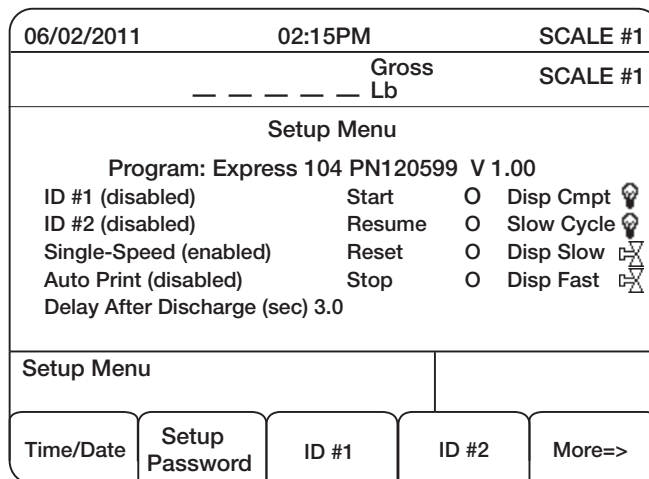

Figure 3-2. Setup Menu Main Screen
- If no system password is entered, the **Setup Menu Main Screen** will display (see Figure 3-2).
- If the password is valid the **Setup Menu Main Screen** will display (see Figure 3-2).